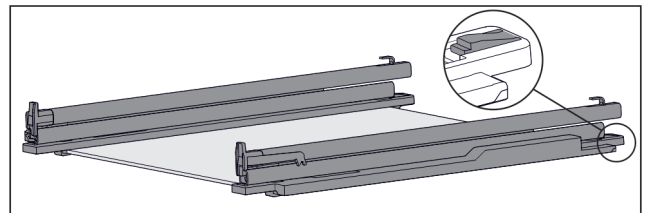

Fig. 155 Glass shelf with rails and retaining parts
- ▶ Press down retaining part at the rear (see Fig. 155) and at the same time push the rail back.